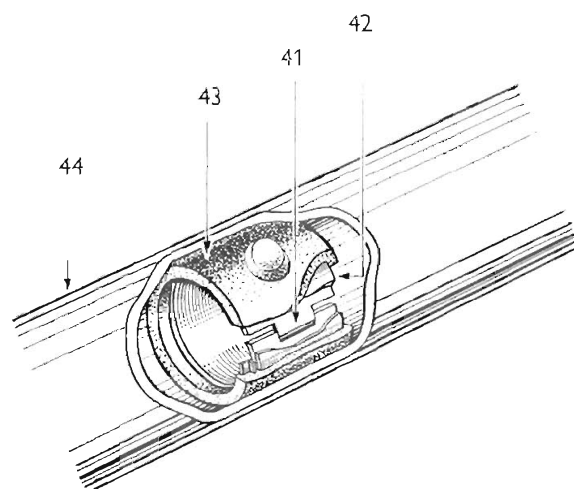
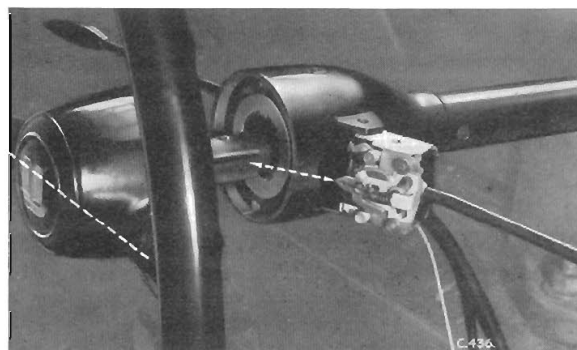

Fig. 27. Steering column bush assembly
Fig. 28. Position of direction indicator cancelling lugs in relation to the steering wheel
1. Assemble the nylon bush (41) and steel sleeve (42) to each rubber bush (43) and push the assembly into the bottom of the outer column (44) engaging the locating lugs with the holes as shown on Fig. 27. Ensure that the metal reinforcement ring at the end of the bush is positioned towards the lower end of the column. Repeat the procedure with the upper bush assembly.
2. Fit the end cap (40) to the lower end of the column (44).
3. Fit the steering wheel to the inner column (39), aligning the direction indicator cancelling lugs on the column to correspond with the steering wheel spokes as shown on Fig. 28. Fit the clip (60) and secure with the nut (62). Peen the metal of the nut to the inner column to prevent it unscrewing.